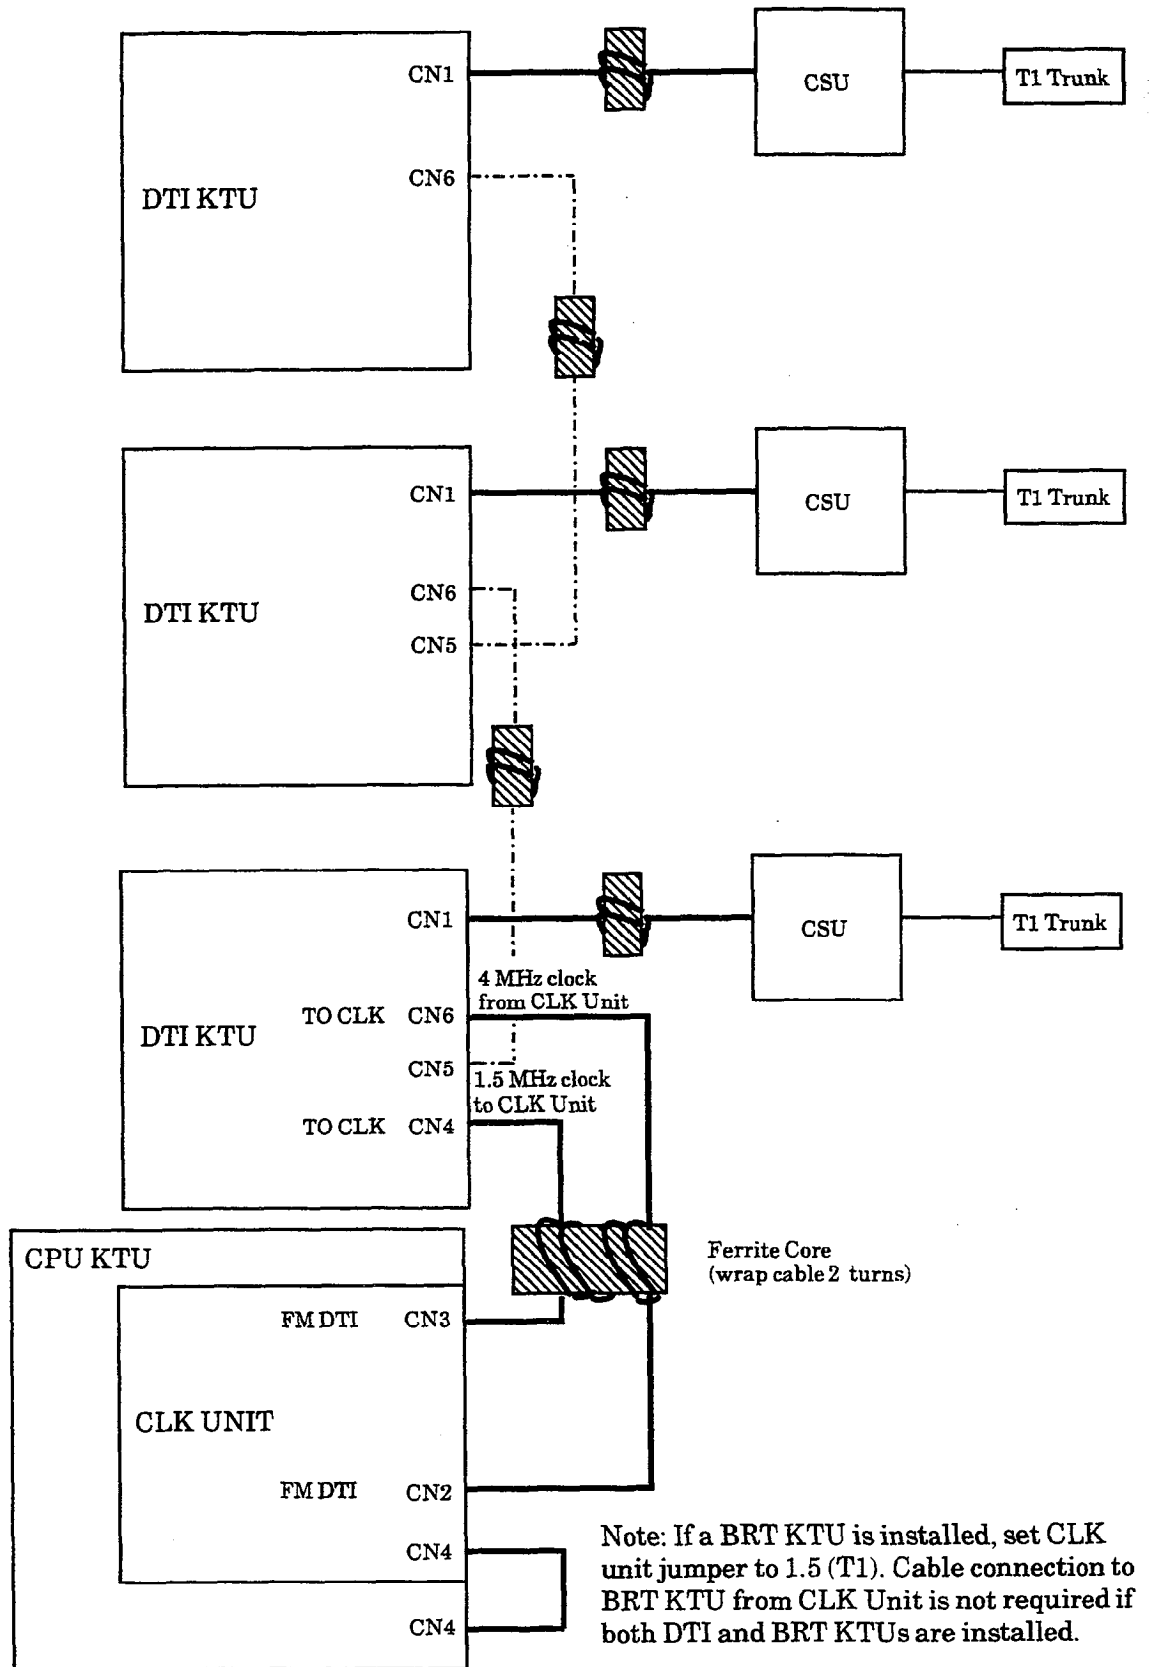
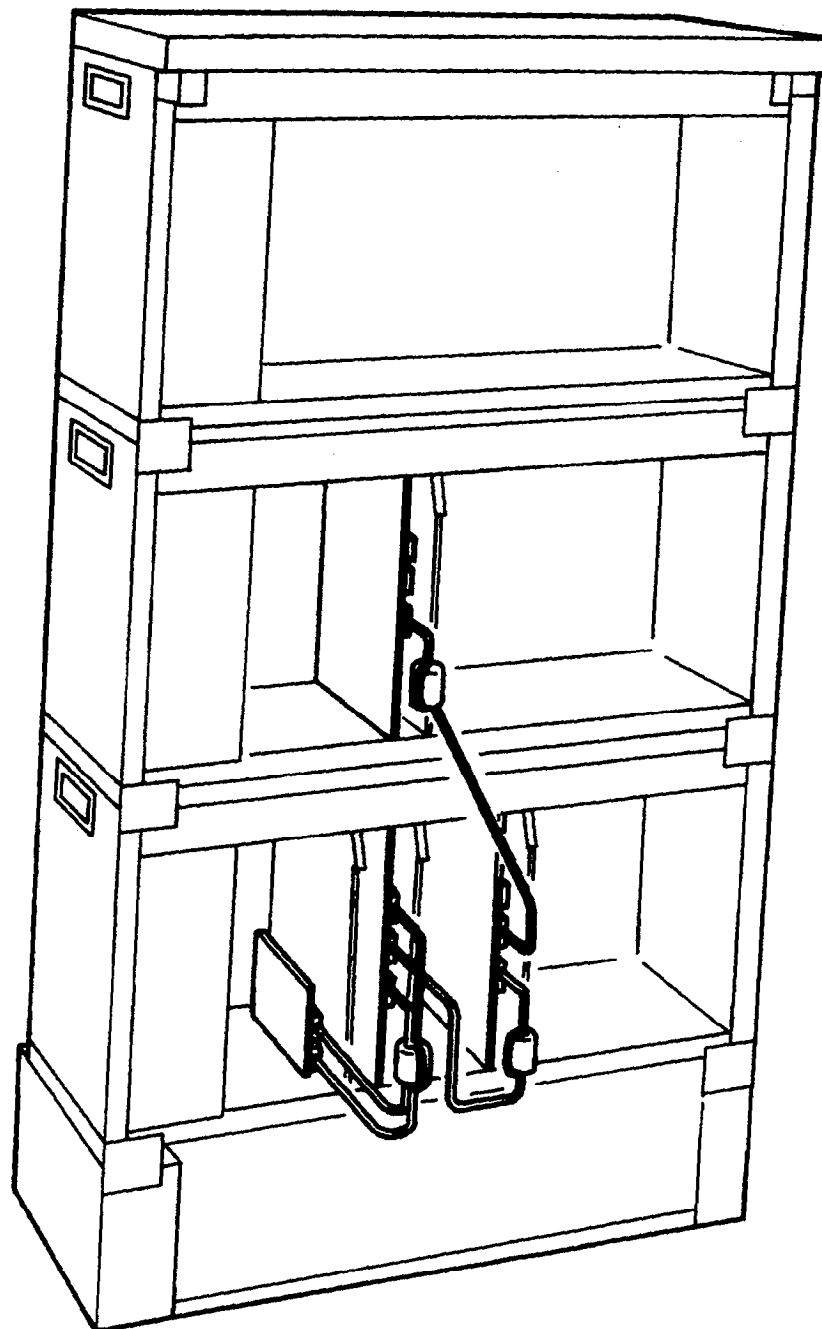

Figure 3-93 Connecting the Cable Between the DTI-F( )-10 KTUs or DTI-F(A)-20 KTUs and the CLK-F-21 Unit
Figure 3-94 Example of Three DTI-F( )-10 KTUs or DTI-F(A)-20 KTUs Attached to the CLK-F-21 Unit
- (1) Wrap the cables, provided with the DTI-F( )-10 KTU or DTI-F(A)-20 KTU, twice (two turns) around a ferrite core.
- (2) Connect the cable from the CSU to CN1 on the DTI-F( )-10 KTU or DTI-F(A)-20 KTU, using the MDF Cable Assembly. Refer to Figure 3-93 - Connecting the Cable Between the DTI-F( )-10 KTUs or DTI-F(A)-20 KTUs and the CLK-F-21 Unit.
- (2) Connect CN6 and CN4, on the DTI-F( )-10 KTU or DTI-F(A)-20 KTU, to CN2 and CN3, on the CLK-F-21 Unit, using the provided cable with the DTI-F( )-10 KTU or DTI-F(A)-20 KTU. Refer to Figure 3-93 - Connecting the Cable Between the DTI-F( )-10 KTUs or DTI-F(A)-20 KTUs and the CLK-F-21 Unit.
- (3) When connecting a second DTI-F( )-10 KTU or DTI-F(A)-20 KTU in the Level II Advanced system, connect CN6 on the second DTI-F( )-10 KTU or DTI-F(A)-20 to CN5 on the first DTI-F( )-10 KTU or DTI-F(A)-20 KTU after wrapping this cable [provided with the DTI-F( )-10 KTU or DTI-F(A)-20 KTU] twice (two turns) around a ferrite core.
- (4) When installing a third DTI-F( )-10 KTU or DTI-F(A)-20 KTU in the Level II Advanced system, follow the same procedure in step 3 for connection between the third and second DTI-F( )-10 KTU or DTI-F(A)-20 KTU. Refer to Figure 3-94 - Example of Three DTI-F( )-10 KTUs or DTI-F(A)-20 KTUs Attached to the CLK-F-21 Unit.